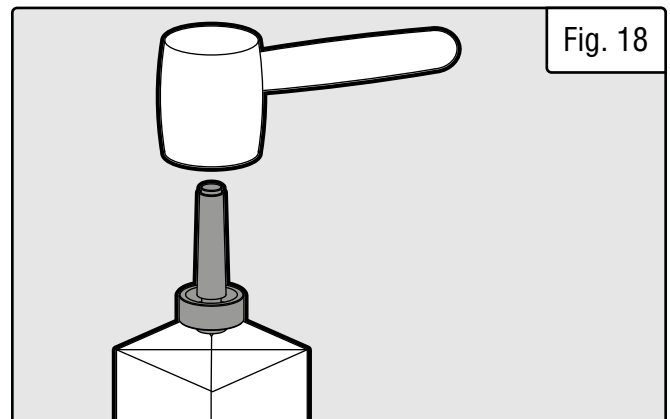

Fig. 18
3. Drive the spur center about 0.1 inches (3 mm) into the workpiece using a wood mallet or dead blow hammer (Fig. 18). Be careful not to split the workpiece. Do not use a steel face hammer and NEVER drive the workpiece onto the spur center while it is mounted on the spindle of the lathe.